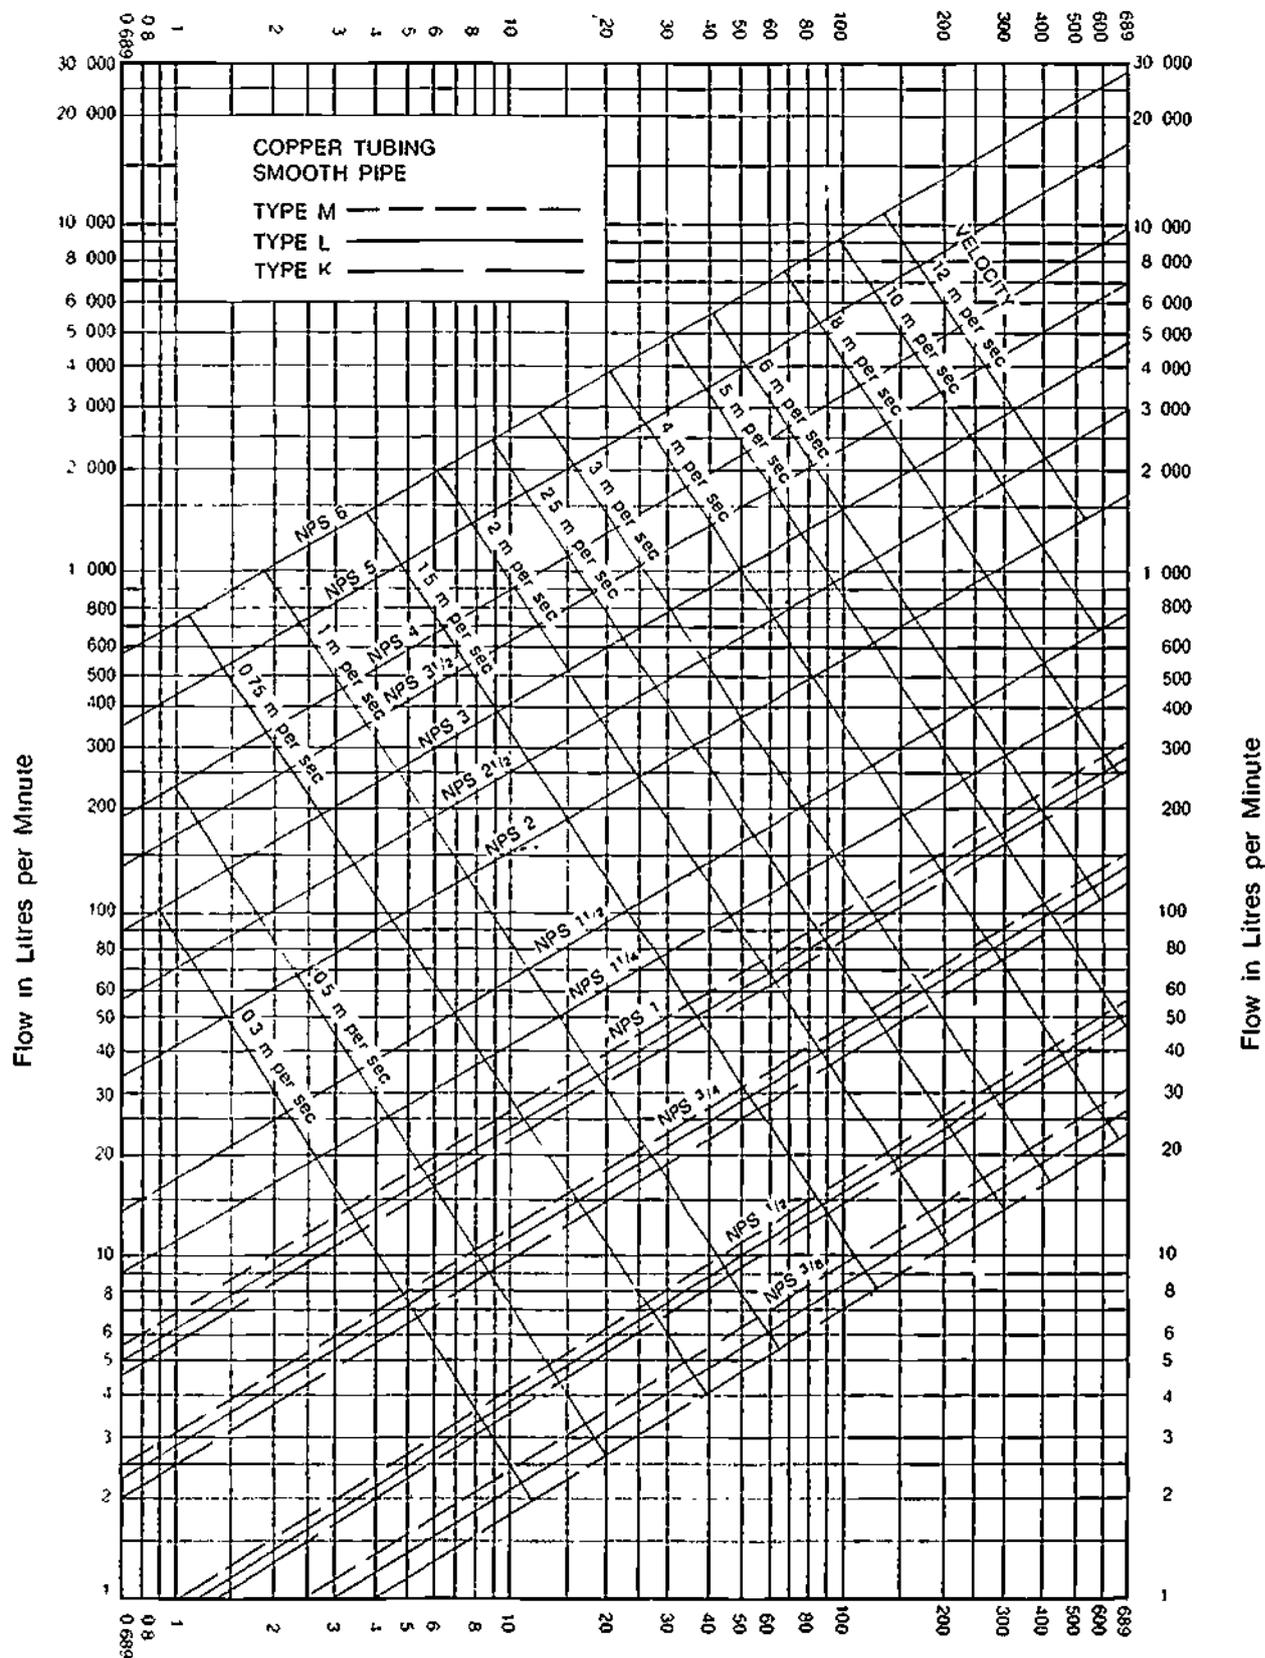
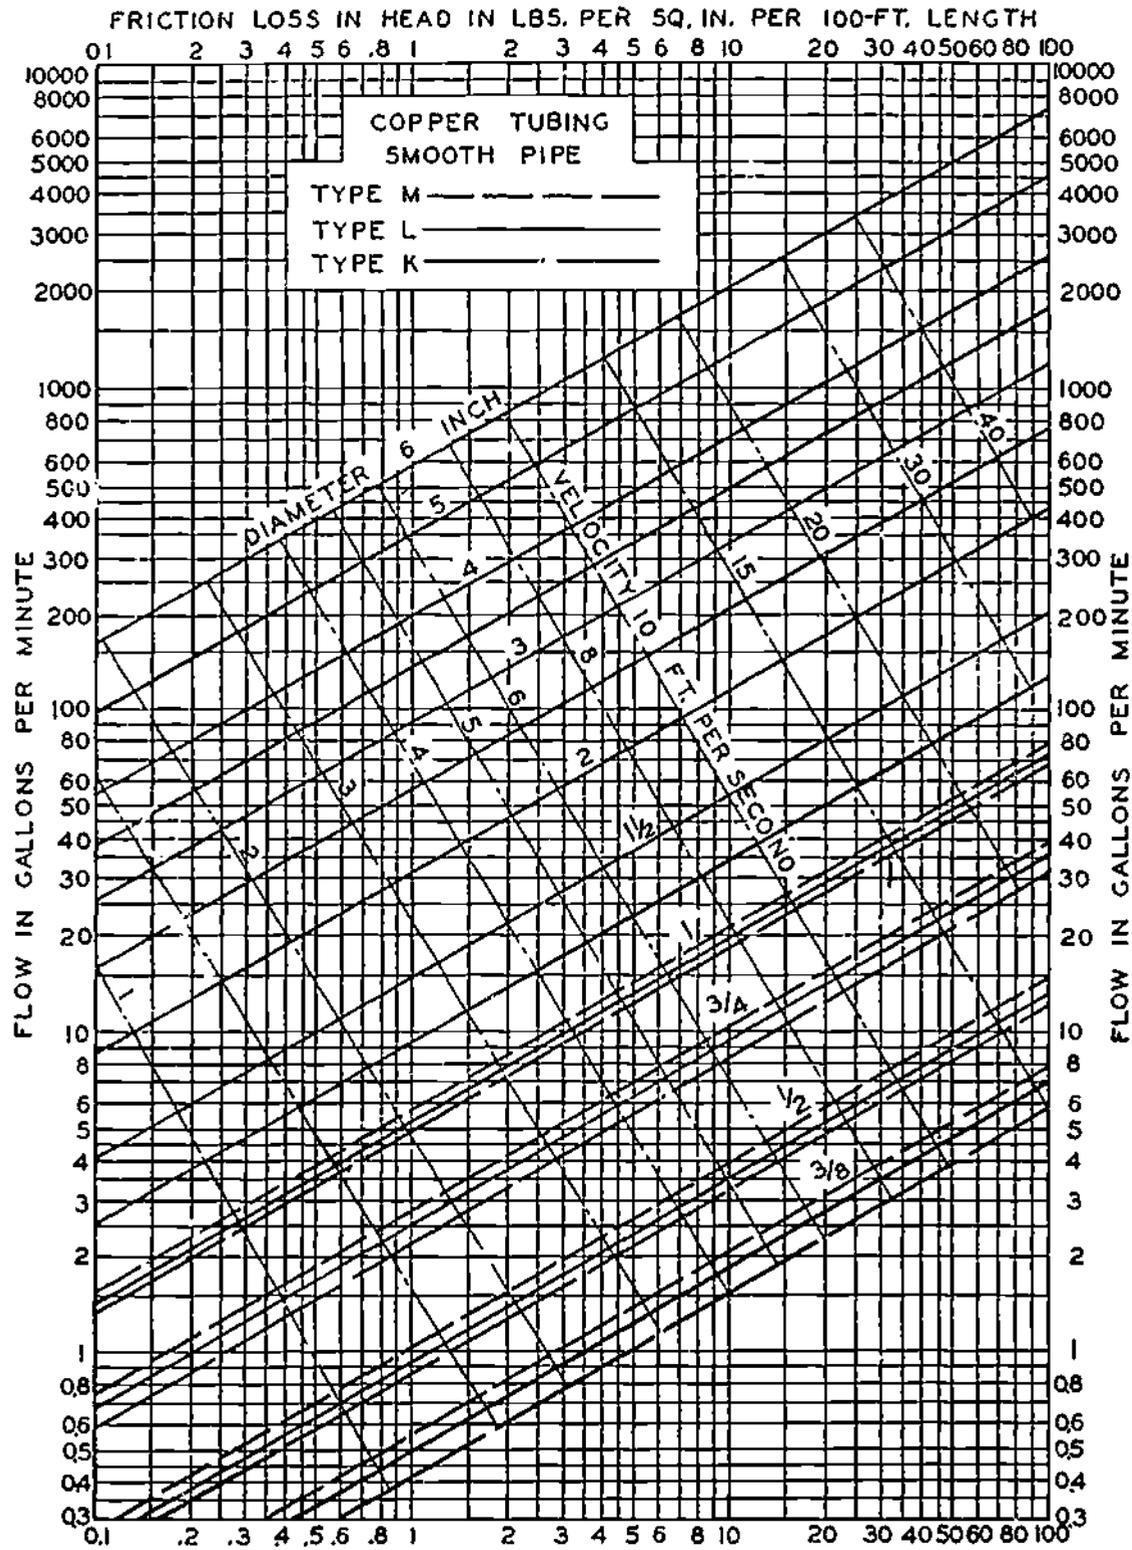

Figure 33-1. Friction Loss in Head in kPa per 30 m Length
Figure 33-4. Friction Loss in Head in Lbs. per Sq. in. per 100-Ft. Length
31. Figures 33-1 to 33-3 (in metric) and Figures 33-4 to 33-6 (in imperial) at the end of this section give the pipe friction losses corresponding to the above three classifications for various nominal diameters and velocities.